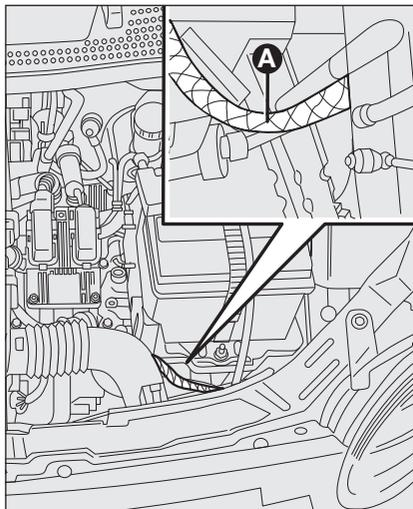

fig. 1a – Duratec Versions
- connect a second cable to the negative terminal – of the booster battery to an earth point **A** on the car to be started (**fig. 1a-1b**);